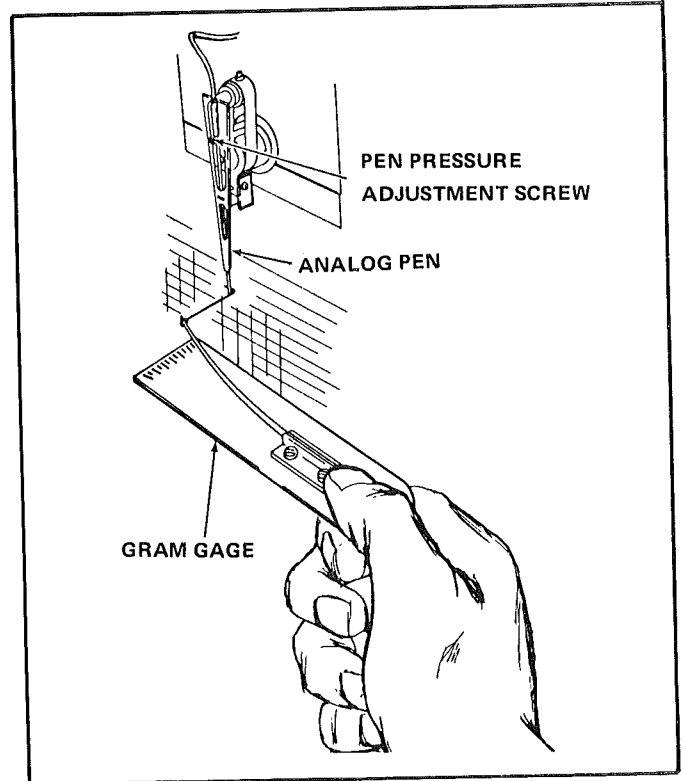

FIGURE 5-9 PEN PRESSURE MEASUREMENT
3. Place gram gage hook under pen as close as possible to top. Form a right angle to pen shaft with hook (Figure 5-9).
4. Pull pen from chart as shown in Figure 5-9 and take reading on gage the moment excessive ink starts to flow from pen.